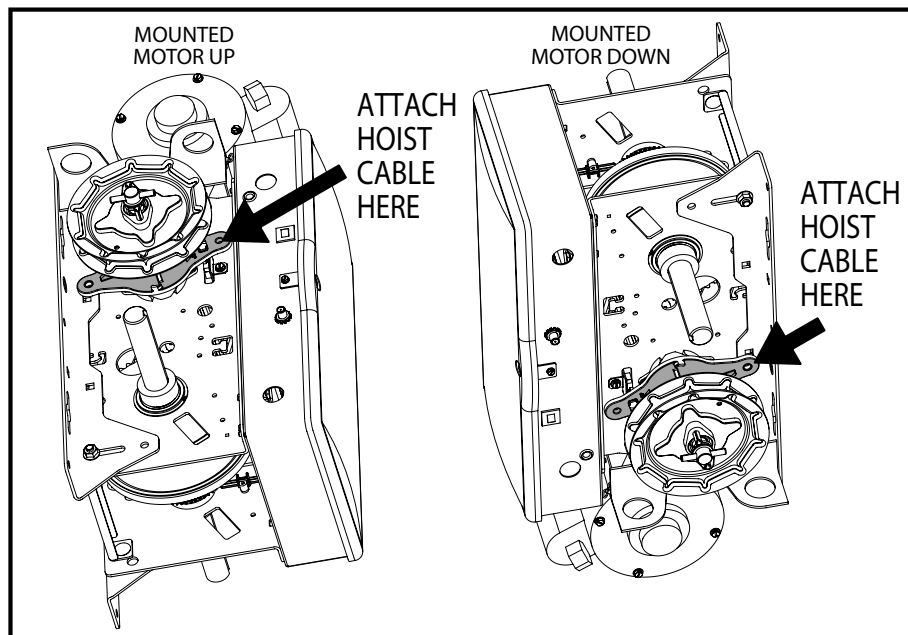

Fig 20
- With operator installed motor DOWN, attach hoist cable to cam arm hole closest to mounting plate. Fig. 20
- With operator installed motor UP, attach hoist cable to cam arm hole closest to electric box. Fig. 20